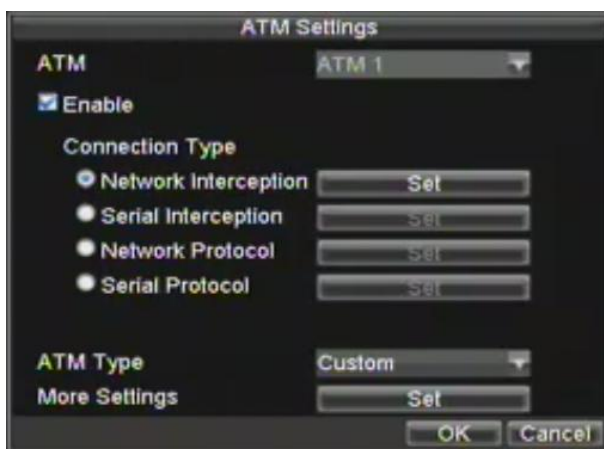

Figure 1. ATM Settings Menu
1. Enter **ATM Settings** menu, shown in Figure 1 by clicking Menu > Setting > ATM to enter ATM Settings menu.